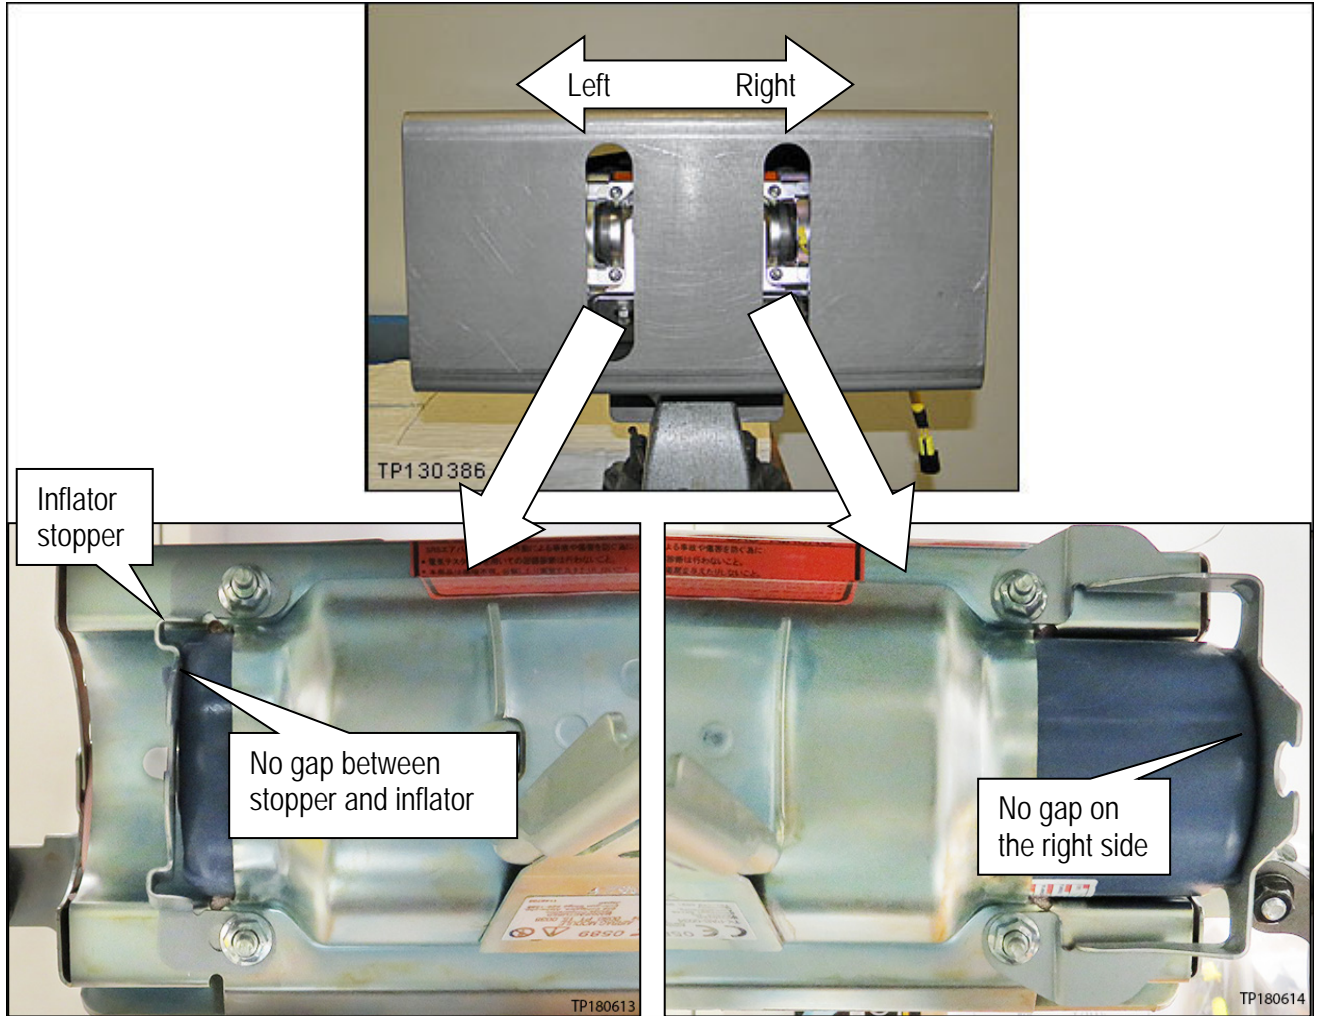

Figure 33
43. Make sure the inflator is pushed all the way into its housing – no gap on the right side (see Figure 33).
44. Make sure there is no gap between the inflator stopper and the inflator on the left side (see Figure 33).